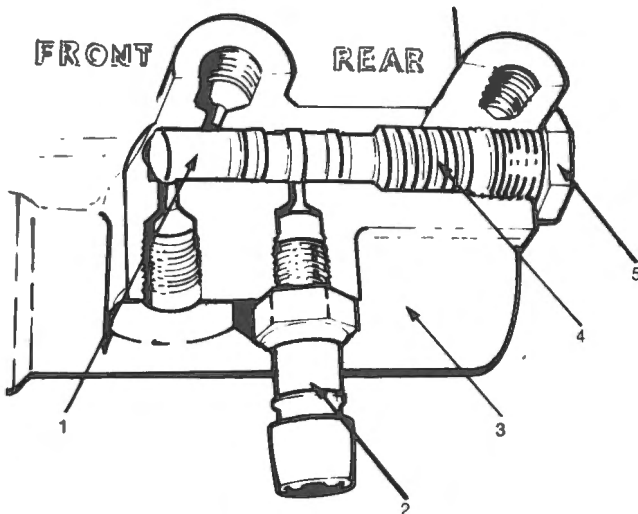

Fig. R-4
- 6 Remove the warning light switch from the cylinder body. Fig. R-4.
- 7 Remove the plug from the end of the master cylinder and withdraw the differential valve and spring. Fig. R-4.